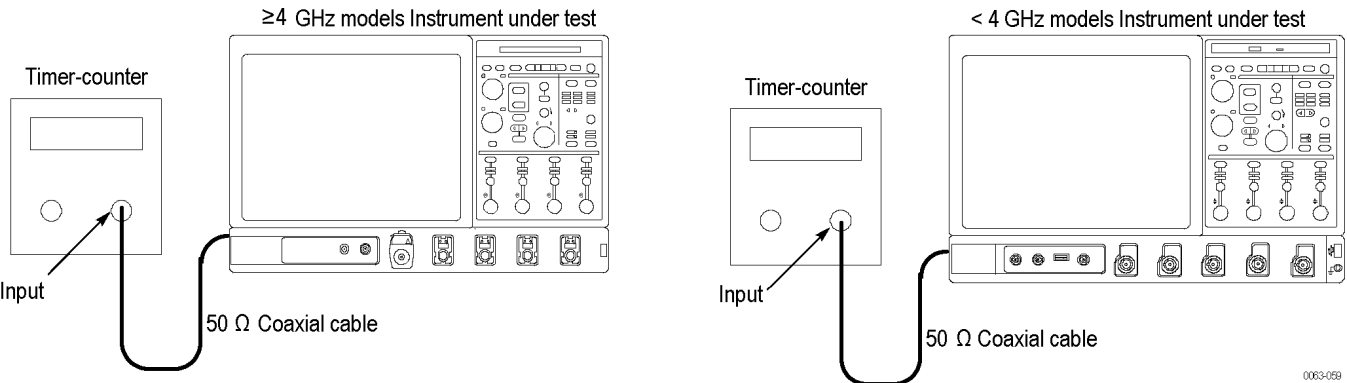

Figure 26: Timebase and delay time initial test hookup
- a. *Hook up the test-signal source:* Connect the input of the timer-counter to **AUX Out** (<4 GHz models) or reference output (≥4 GHz models). (See Figure 26: Timebase and delay time initial test hookup on page 242.)